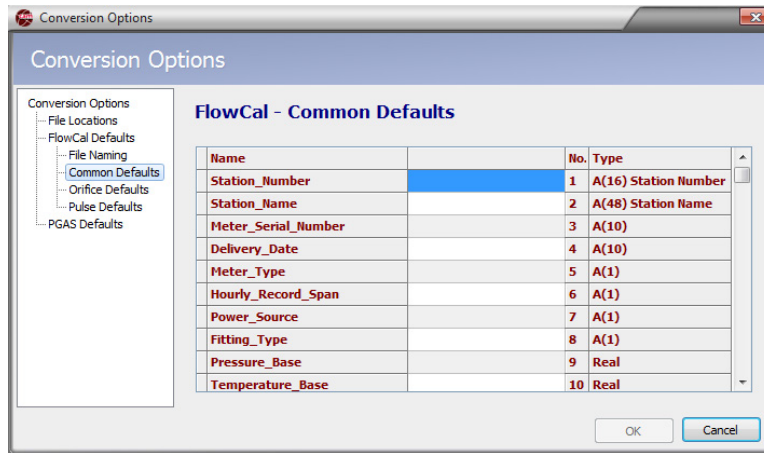

Figure 5.3—Flow-Cal Common Defaults dialog
- Common Defaults (Figure 5.3, page 59)